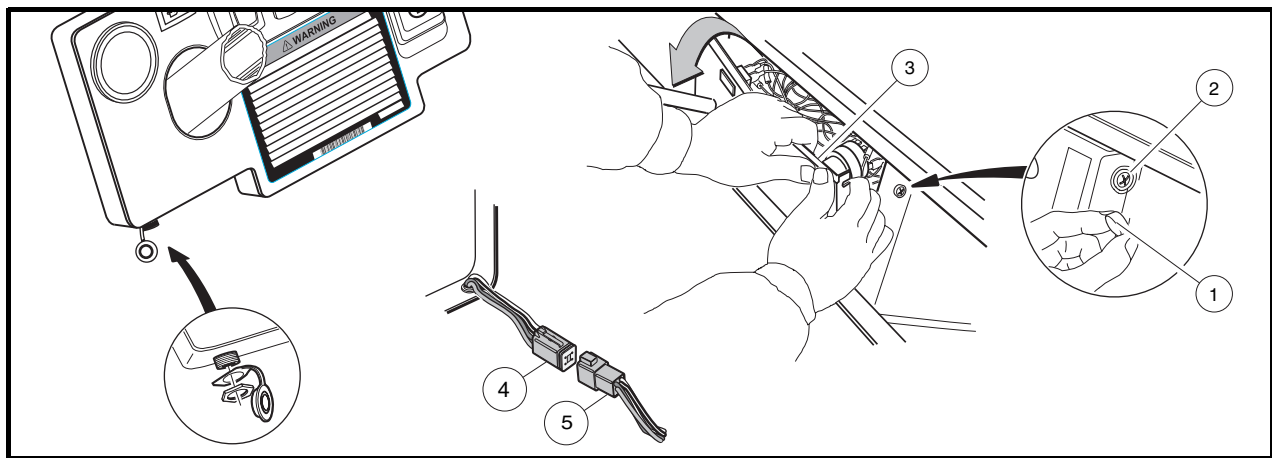

Figure 22-9 Testing IQDM Jack Located Under Instrument Panel
- 3.1. Remove the center dash panel (**Figure 22-9, Page 22-19**).